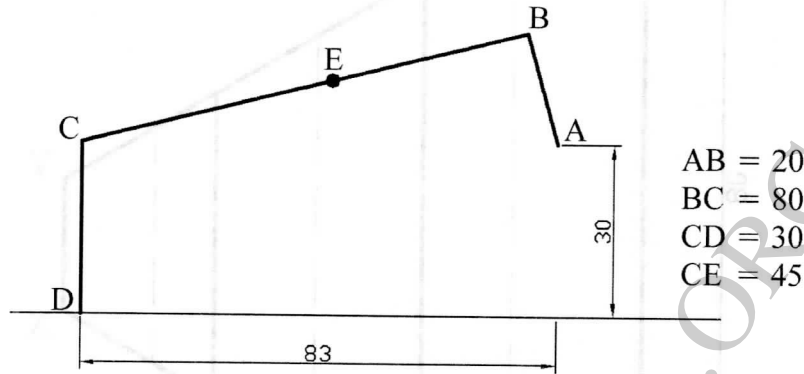

Figure 7
- 12 **Figure 7** shows a link mechanism in which AB rotates about A while C oscillates about point D. Plot the locus of point E as AB makes one complete revolution. (15 marks)